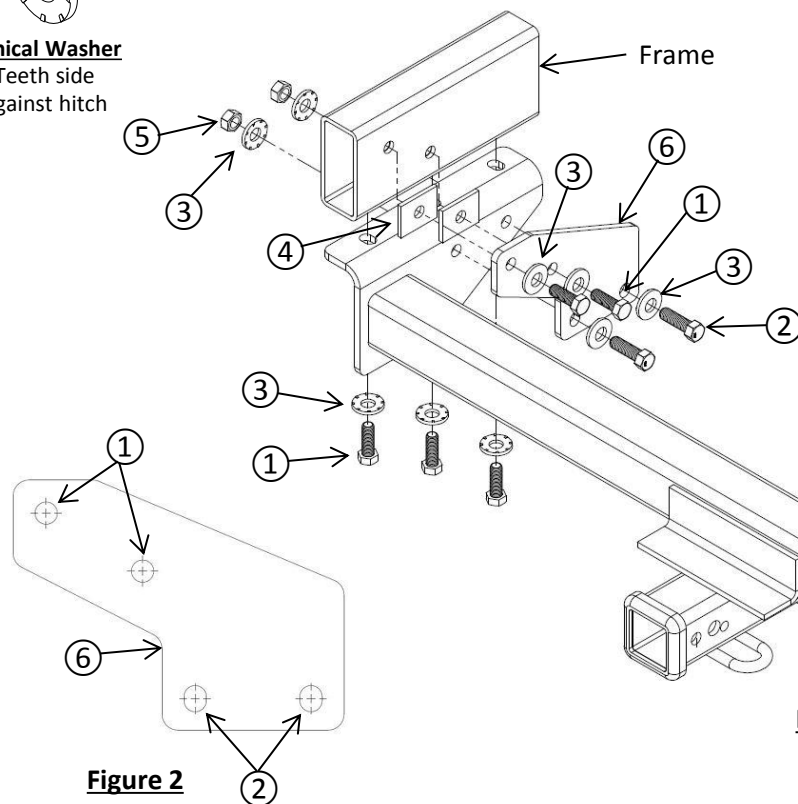

Figure 1
- Install Bolt Plate** – Install (2) M12 bolts (item 1) and (2) conical washers through the top (2) holes of each bolt plates. On each bolt put (1) spacer then thread the bolt into the weldnut in the frame as shown in Figure 1. In the bottom (2) holes of each bolt plate and each hitch bracket thread (1) M12 bolt (item 2) and (1) conical washer and secure each bolt with (1) conical washer and (1) M12 nut.